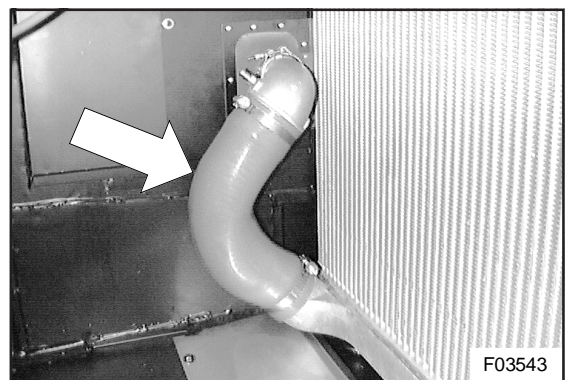

Figure 28: Intercooler inlet hose
30. Using a hydraulic transmission jack and a wooden block, support the intercooler at the base and raise it slightly. Loosen the two constant torque hose clamps securing the intercooler inlet hose and remove the hose (see Figure 28).